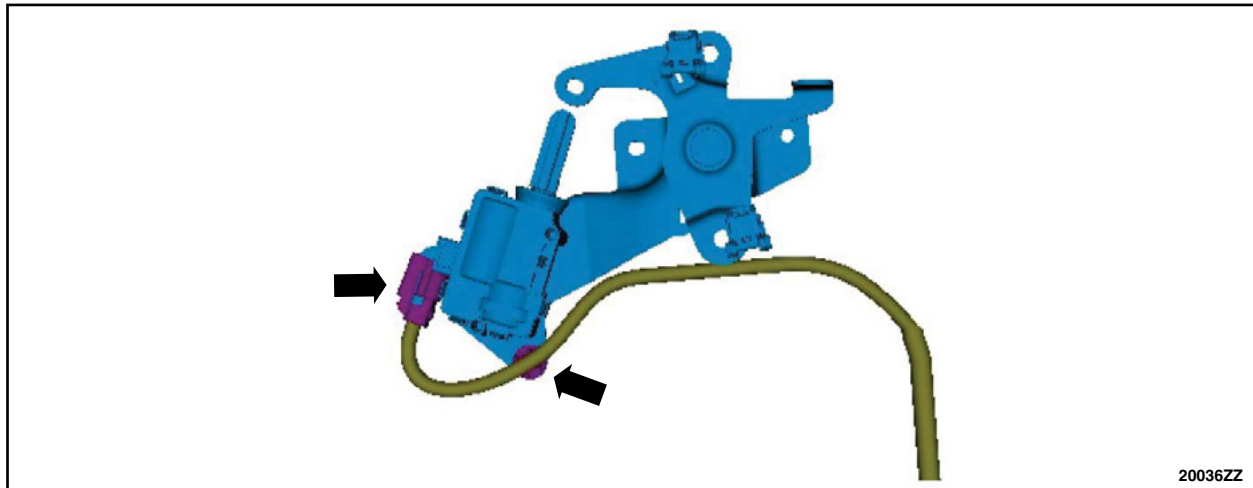

FIGURE 54
74. Disconnect the electrical connector and the push pin retainer. See Figure 54.